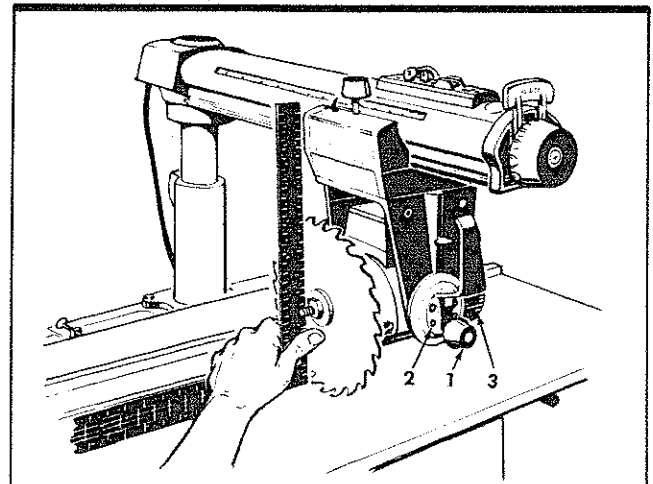

Figure 16
1. Place the edge of a framing square on the table top and against the saw blade as shown in figure 16.
- a. Using a 1/4-inch hex "L" wrench, loosen just slightly the four socket-head screws (2, figure 16).
- b. Tilt the motor until the saw blade is square with the table top as shown in figure 16. Then, while holding the square firmly against the saw blade and table top, apply pressure against lower part of saw blade with the thumb until approximately 1/32-inch clearance exists between the square and lower edge of saw blade. This is to compensate for the possible slight shifting of the motor while screws (2) are being tightened.
- c. Tighten the socket head screws (2, figure 16).
- e. The indicator (3, figure 16) should read 0° on the bevel index scale. If not, loosen the indicator attaching screw, adjust indicator to zero and tighten screw securely.